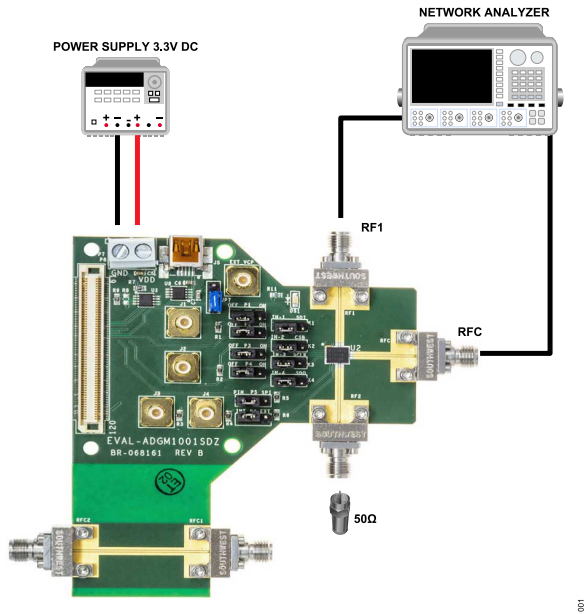
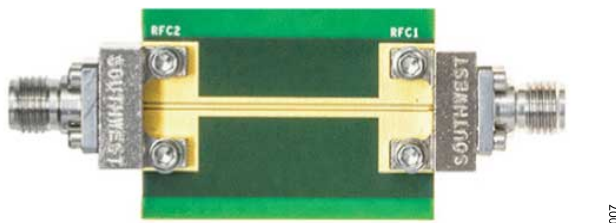
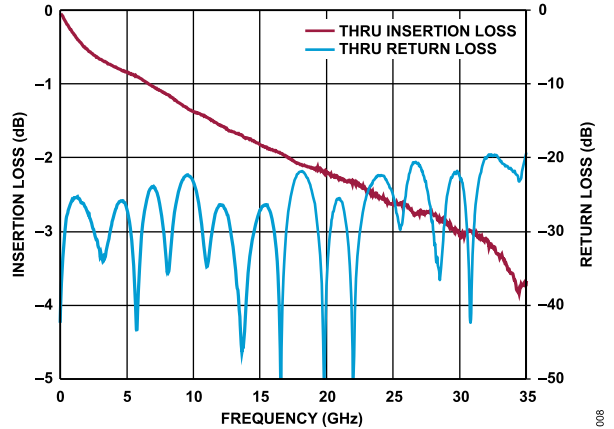

Figure 7. EVAL-ADGM1001SDZ Connection Diagram for Parallel Interface
Figure 8. EVAL-ADGM1001SDZ Calibration Transmission Line Used for PCB Insertion Loss and Phase Offset Correction
Figure 9. Calibration Transmission Line Insertion Loss and Return Loss
**Table 5. Link Settings (Per PCB Label) for Parallel Interface Use (See Figure 7)**
Figure 7 shows the EVAL-ADGM1001SDZ of the ADGM1001. Apply a  $V_{DD}$  supply to the EVAL-ADGM1001SDZ to measure the performance of the switch. The links are set according to the switch under test (see Table 6). After selecting the desired channel and its state, the switch performance data can be collected using a network analyzer. Terminate the RFX edge connectors of the unused switch channels into 50  $\Omega$  loads to achieve the full performance of the channel under test.
The EVAL-ADGM1001SDZ, shown in Figure 7, comes with a calibration transmission line, CALIBRATION THRU, on the PCB. This calibration line removes the insertion loss and phase offset of the PCB transmission lines connecting to the switch from the measurement. Figure 8 shows the calibration transmission line and Figure 9 shows its insertion loss and return loss up to 35 GHz. The calibration line is exactly the same length as the distance from any one RFX connector to the RFX pin of the ADGM1001, plus the distance from the RFC connector to the RFC pin of the ADGM1001.
1 Screwed on at measurement time (see Figure 7).